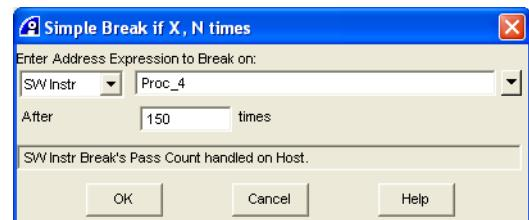

Figure 12-13 Simple Break if X, N times dialog box
1. Select **Debug** → **Breakpoints** → **Conditional** → **Break if X, N times...** from the Code window main menu. The Simple Break if X, N times dialog box is displayed. Figure 12-13 shows an example: